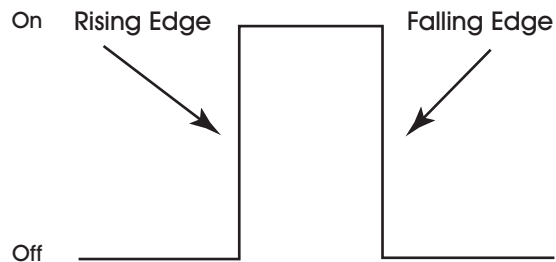

Figure 3-2: Rising and Falling Edges of a Pulse
The **(MD) Pulse Counter Mode** property defines how the *NB-GPC1* will detect a pulse. There are two ways that a pulse can be detected, by sensing the rising edge of the pulse (**MD=0**), the falling edge of the pulse (**MD=1**), or both (**MD=2**). The differences between the rising edge and falling edge of the pulse are shown in Figure 3-2.